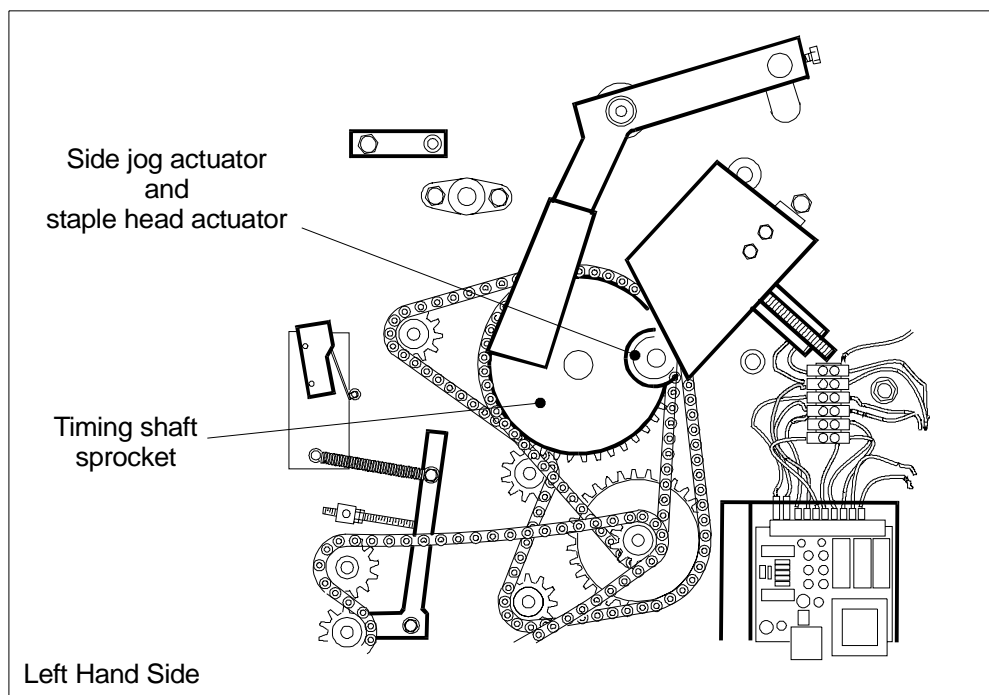

Figure 3.2 - Left-hand side of Bookletmaker
1. Check the left-hand side of the Bookletmaker to ensure that the cam followers are in the same positions as shown in figure 3.2.
4. The next adjustment is to ensure that the timing shaft sprocket is stopping in the correct position. This is at just prior to 3 o'clock as shown in figure 3.2. This sprocket is moving in an anti-clockwise direction. To change the rest position of this sprocket, adjust the position of the main timing cam on the timing shaft.